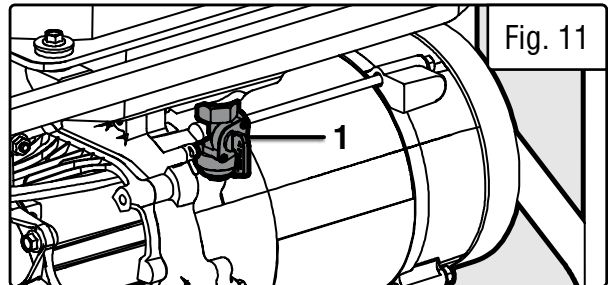

Fig. 11
3. Turn the fuel valve (Fig. 11 - 1) to the OFF position.